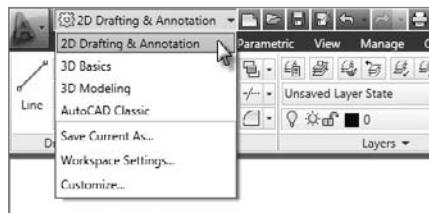

FIGURE 1.6 Selecting the 2D Drafting & Annotation workspace
1. Click the Workspace drop-down from the Quick Access toolbar, and choose 2D Drafting & Annotation, as shown in Figure 1.6.